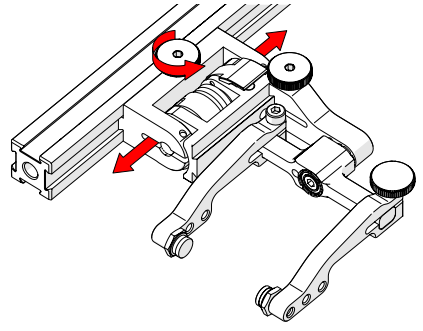

Fig. 45 - Adjust on frame bar
2. Use the probe holder adjustment knob to position the probe holder along the frame bar (Fig. 45).